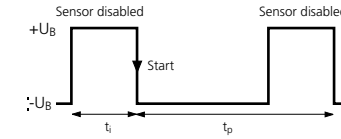

Fig.3: External synchronisation signal
- Apply a square-wave signal to the sync-input with pulse width  $t_i$  and repetition rate  $t_p$  (Fig.3 and technical data).